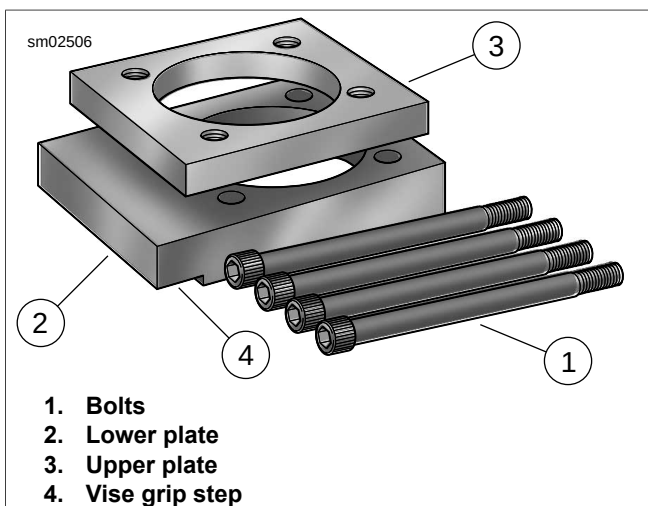

Figure 3-58. Cylinder Torque Plates
2. See Figure 3-58. Check the machined surfaces for flatness using a feeler gauge and CYLINDER TORQUE PLATES (Part No. HD-42324-A) as follows:
- a. Lay gasket side of the upper torque plate (3) flat against the head gasket surface of the cylinder.
- e. Lay the seal side of the lower torque plate (2) flat against the O-ring seal surface and check flatness using a feeler gauge.